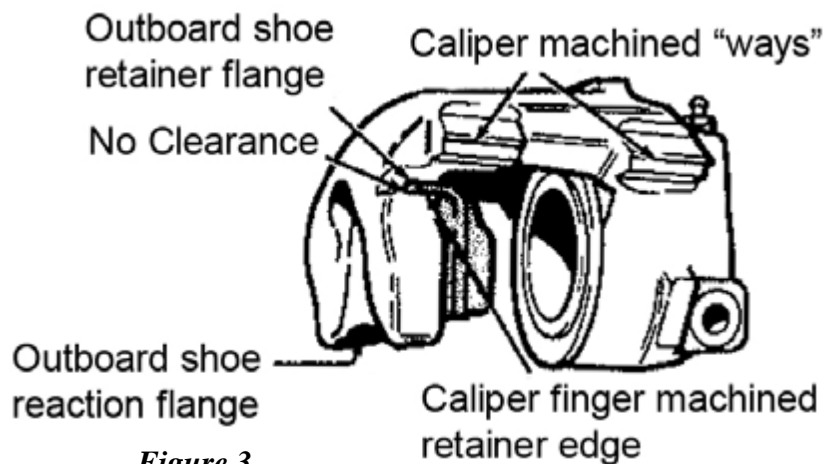

Figure 3
18. Install new outboard shoe. No free play should exist between brake shoe flanges and caliper fingers. (Fig. 3)